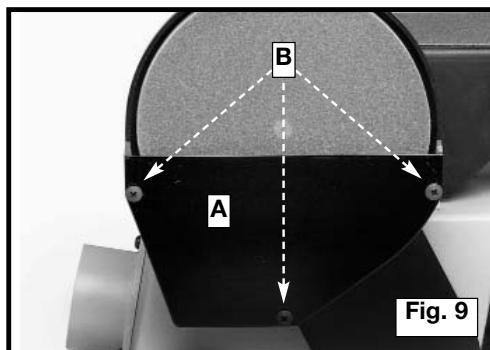

Fig. 9
Install the lower cover (A) Fig. 9 on the belt and pulley guard, using the three M4 x .7 x 12mm sheet metal screws (B).